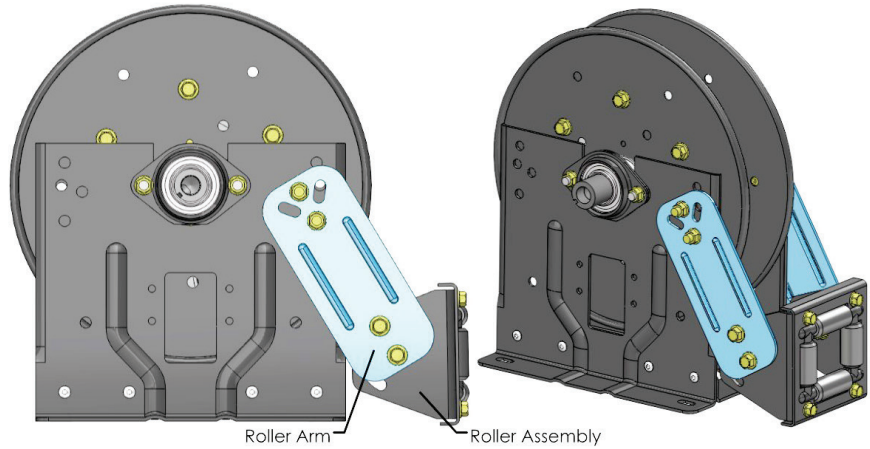

Figure 11 - Reel with Rollers in the “SR” Position
2. Remove spring per Hannay TSB 2013.06.003 Changing a Hannay Spring Motor, this can be found at [www.hannay.com](http://www.hannay.com). The reel should look like Figure 11.